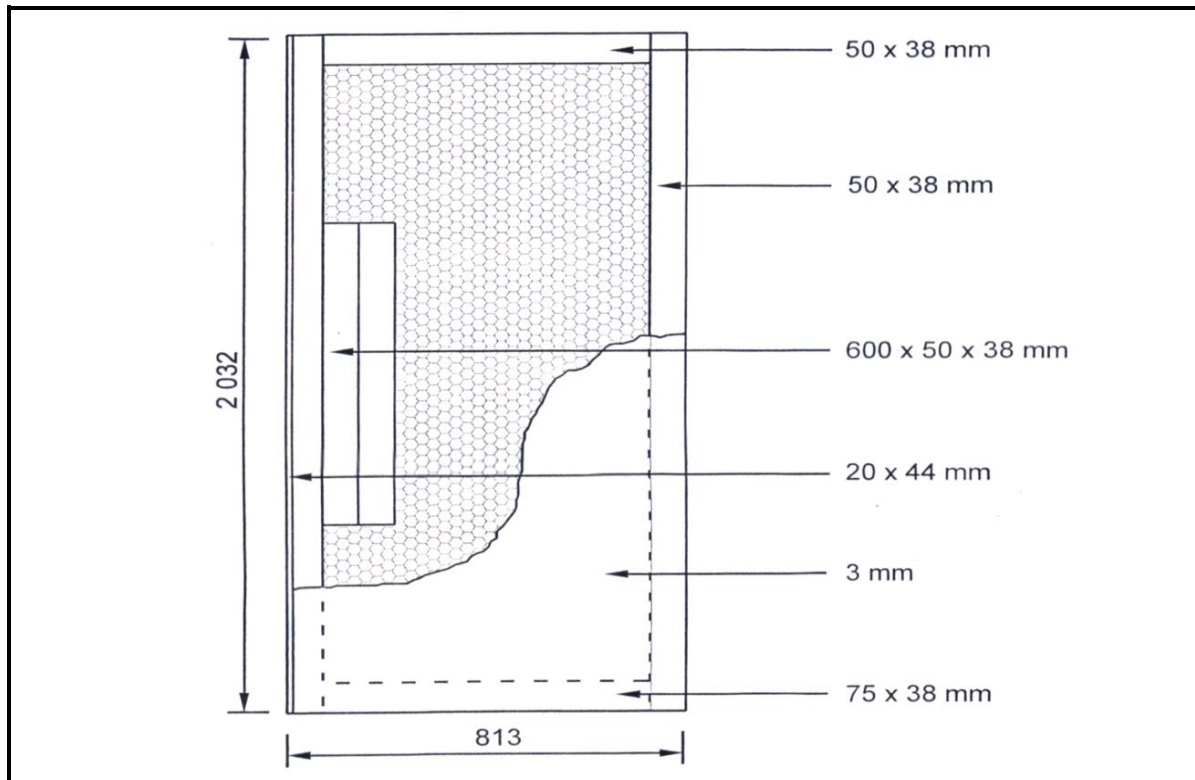

FIGURE 3.4
- 3.4 FIGURE 3.4 shows the front view of a hollow-core flush panel door. Study the drawing and complete the incomplete cutting list. Write down the answer next to the question number (3.4.1–3.4.7) in your ANSWER BOOK.